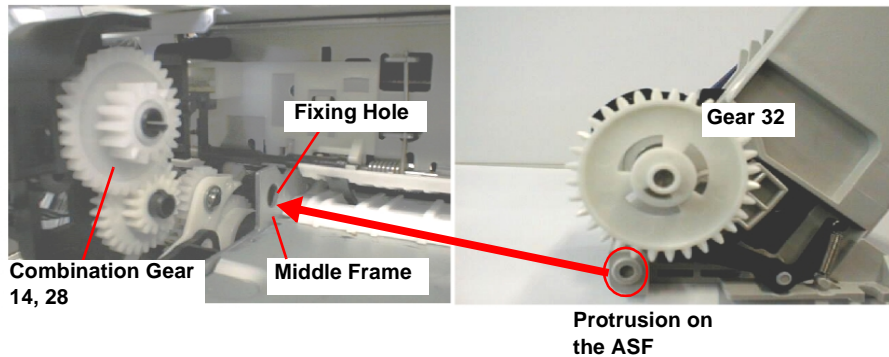

Figure 4-31. Assembling notice for ASF Assembly.
- Engage the Gear 32 (ASF Unit) and Combination Gear 14,28 (DE unit) carefully when installing the ASF unit is to the Bottom Frame. Otherwise, gears may be damaged. Refer to Figure 4-31.